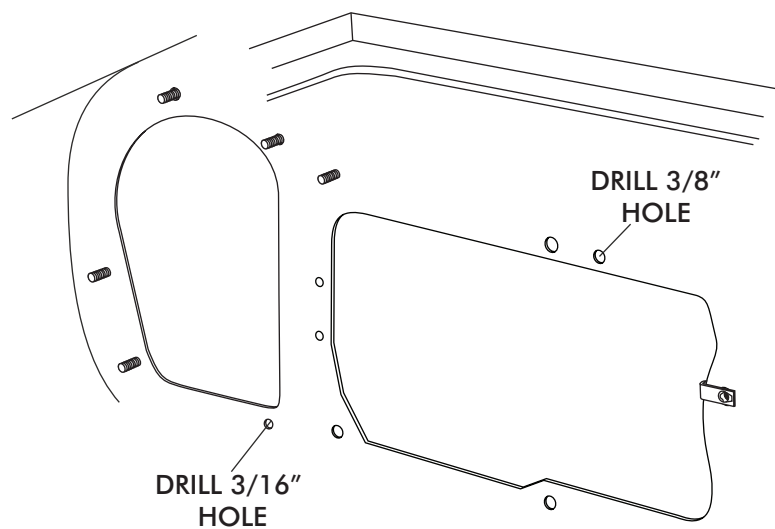

FIGURE 5a
- ☐ DRILL HOLES AS SHOWN BELOW IN FIGURE 5a.